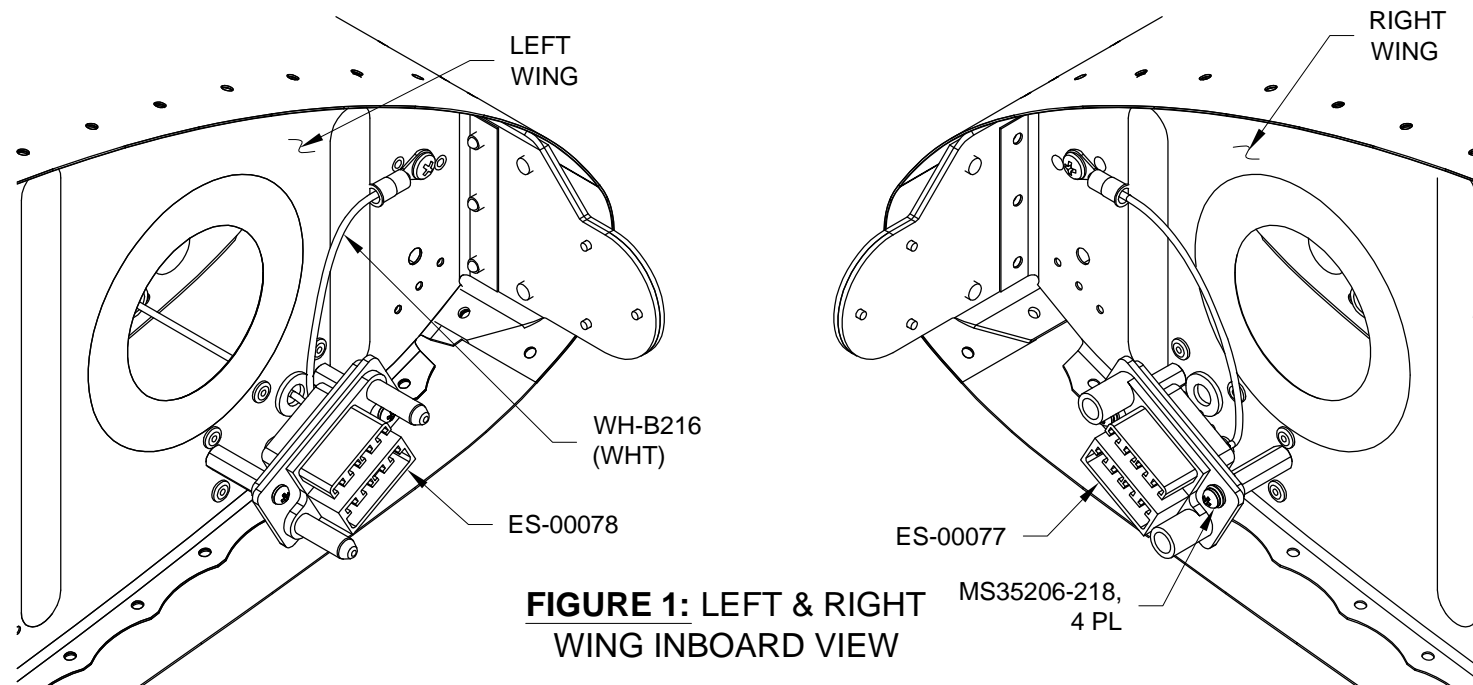

FIGURE 1: LEFT & RIGHT WING INBOARD VIEW
Step 1: Remove the two screws from the ES-00077 Floating 8 Pos Connector Female & ES-00078 Floating 8 Pos Connector Male and let hang down from the nose rib. See Figure 1.